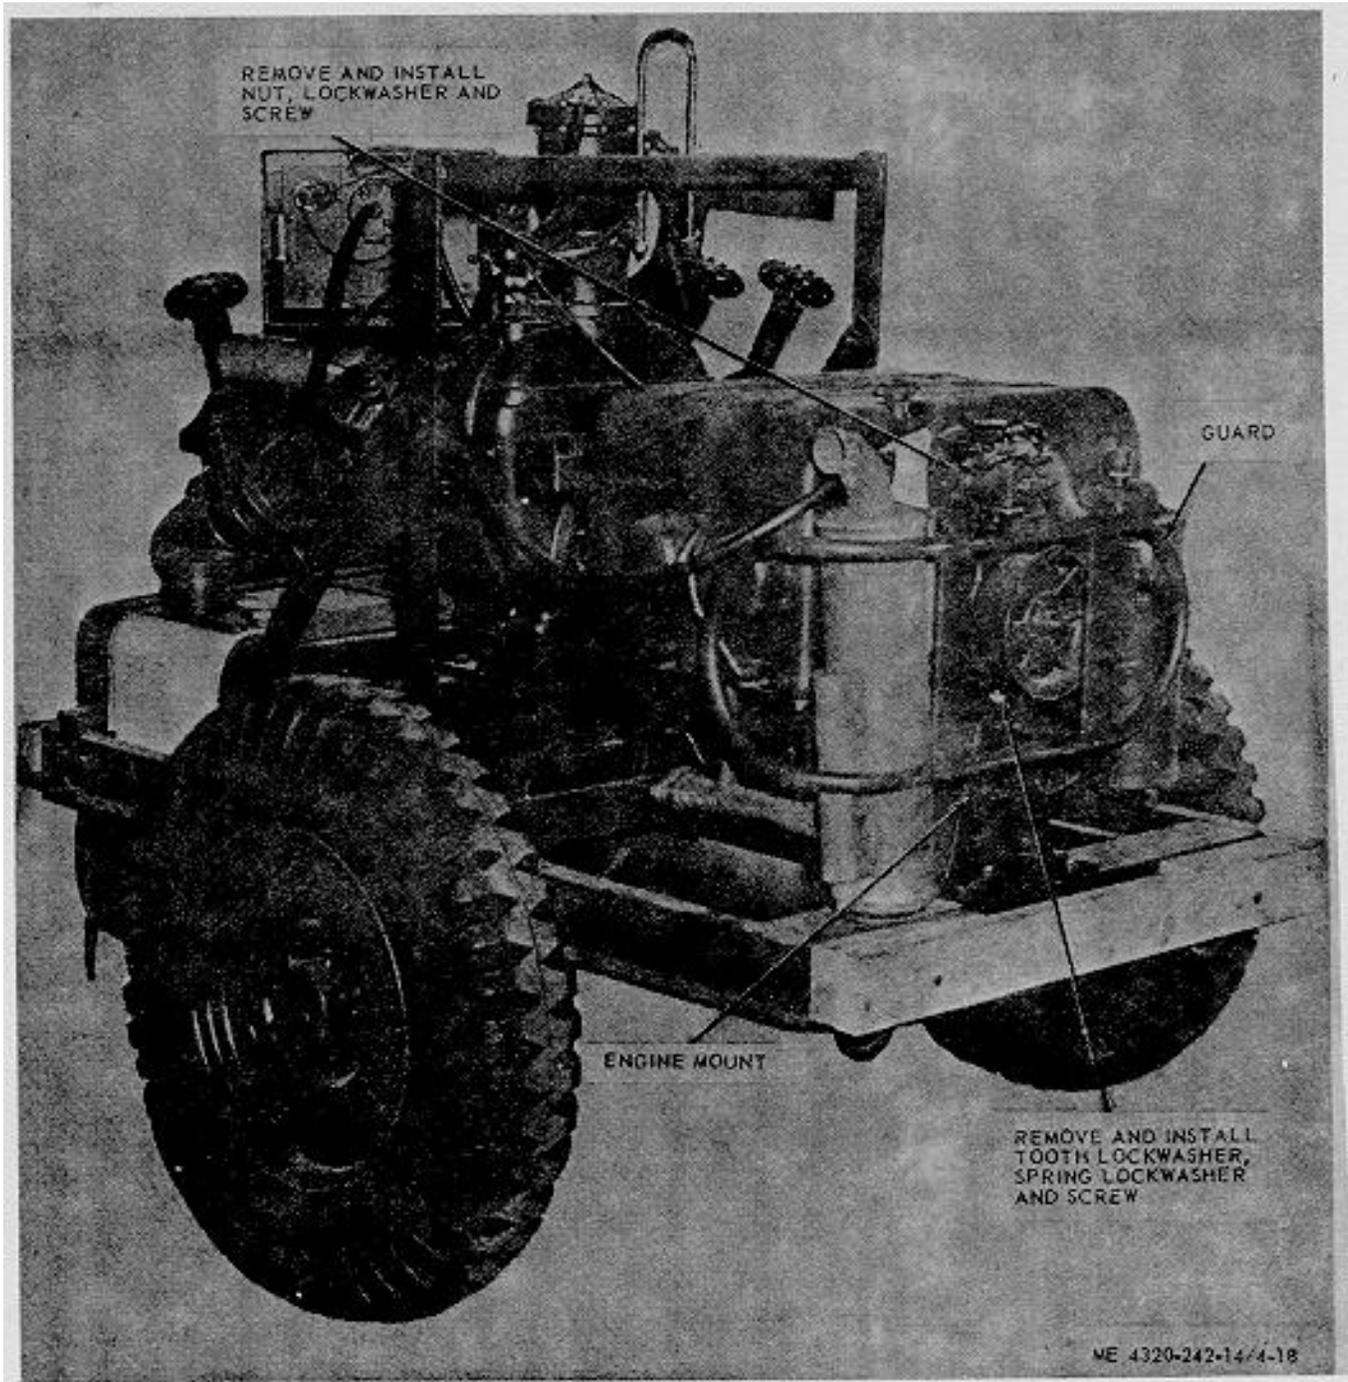

Figure 4-18. Pulley and muffler guard, removal and installation.
a. *Removal.* Refer to figure 4-18 and remove pulley and muffer guard.
(1) Clean guard with cleaning solvent PD-680; dry thoroughly.
(2) Inspect guard for breaks, bends, and other damage. Straighten bends and repair breaks or cracks by welding.
(3) Inspect mounting hardware for damaged threads. Replace damaged mounting hardware.
c. *Installation.* Refer to figure 4-18 and install pulley and muffer guard.
(10) Remove muffler and pulley guard. fig. 4-18).
(11) Pull engine from pump assembly and lift from trailer frame.
(12) Remove the four screws and lockwashers securing the spline coupling to the engine flywheel and remove the spline coupling. Remove the pilot bushing from the spline coupling.